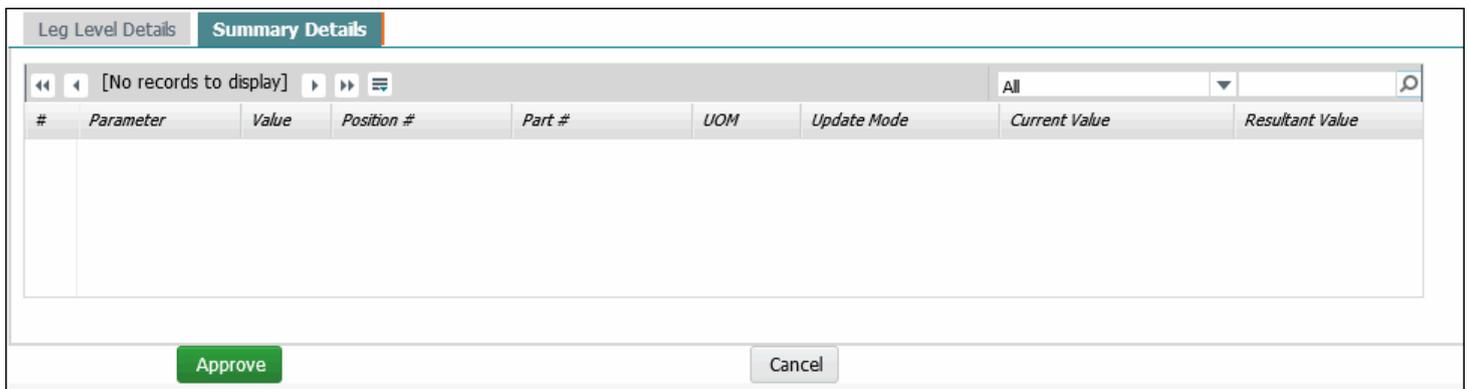

Figure 2.8: The Summary Details multiline
1. Click the **Summary Details** tab to view the **Summary Details** multiline. See *Figure 2.8*.